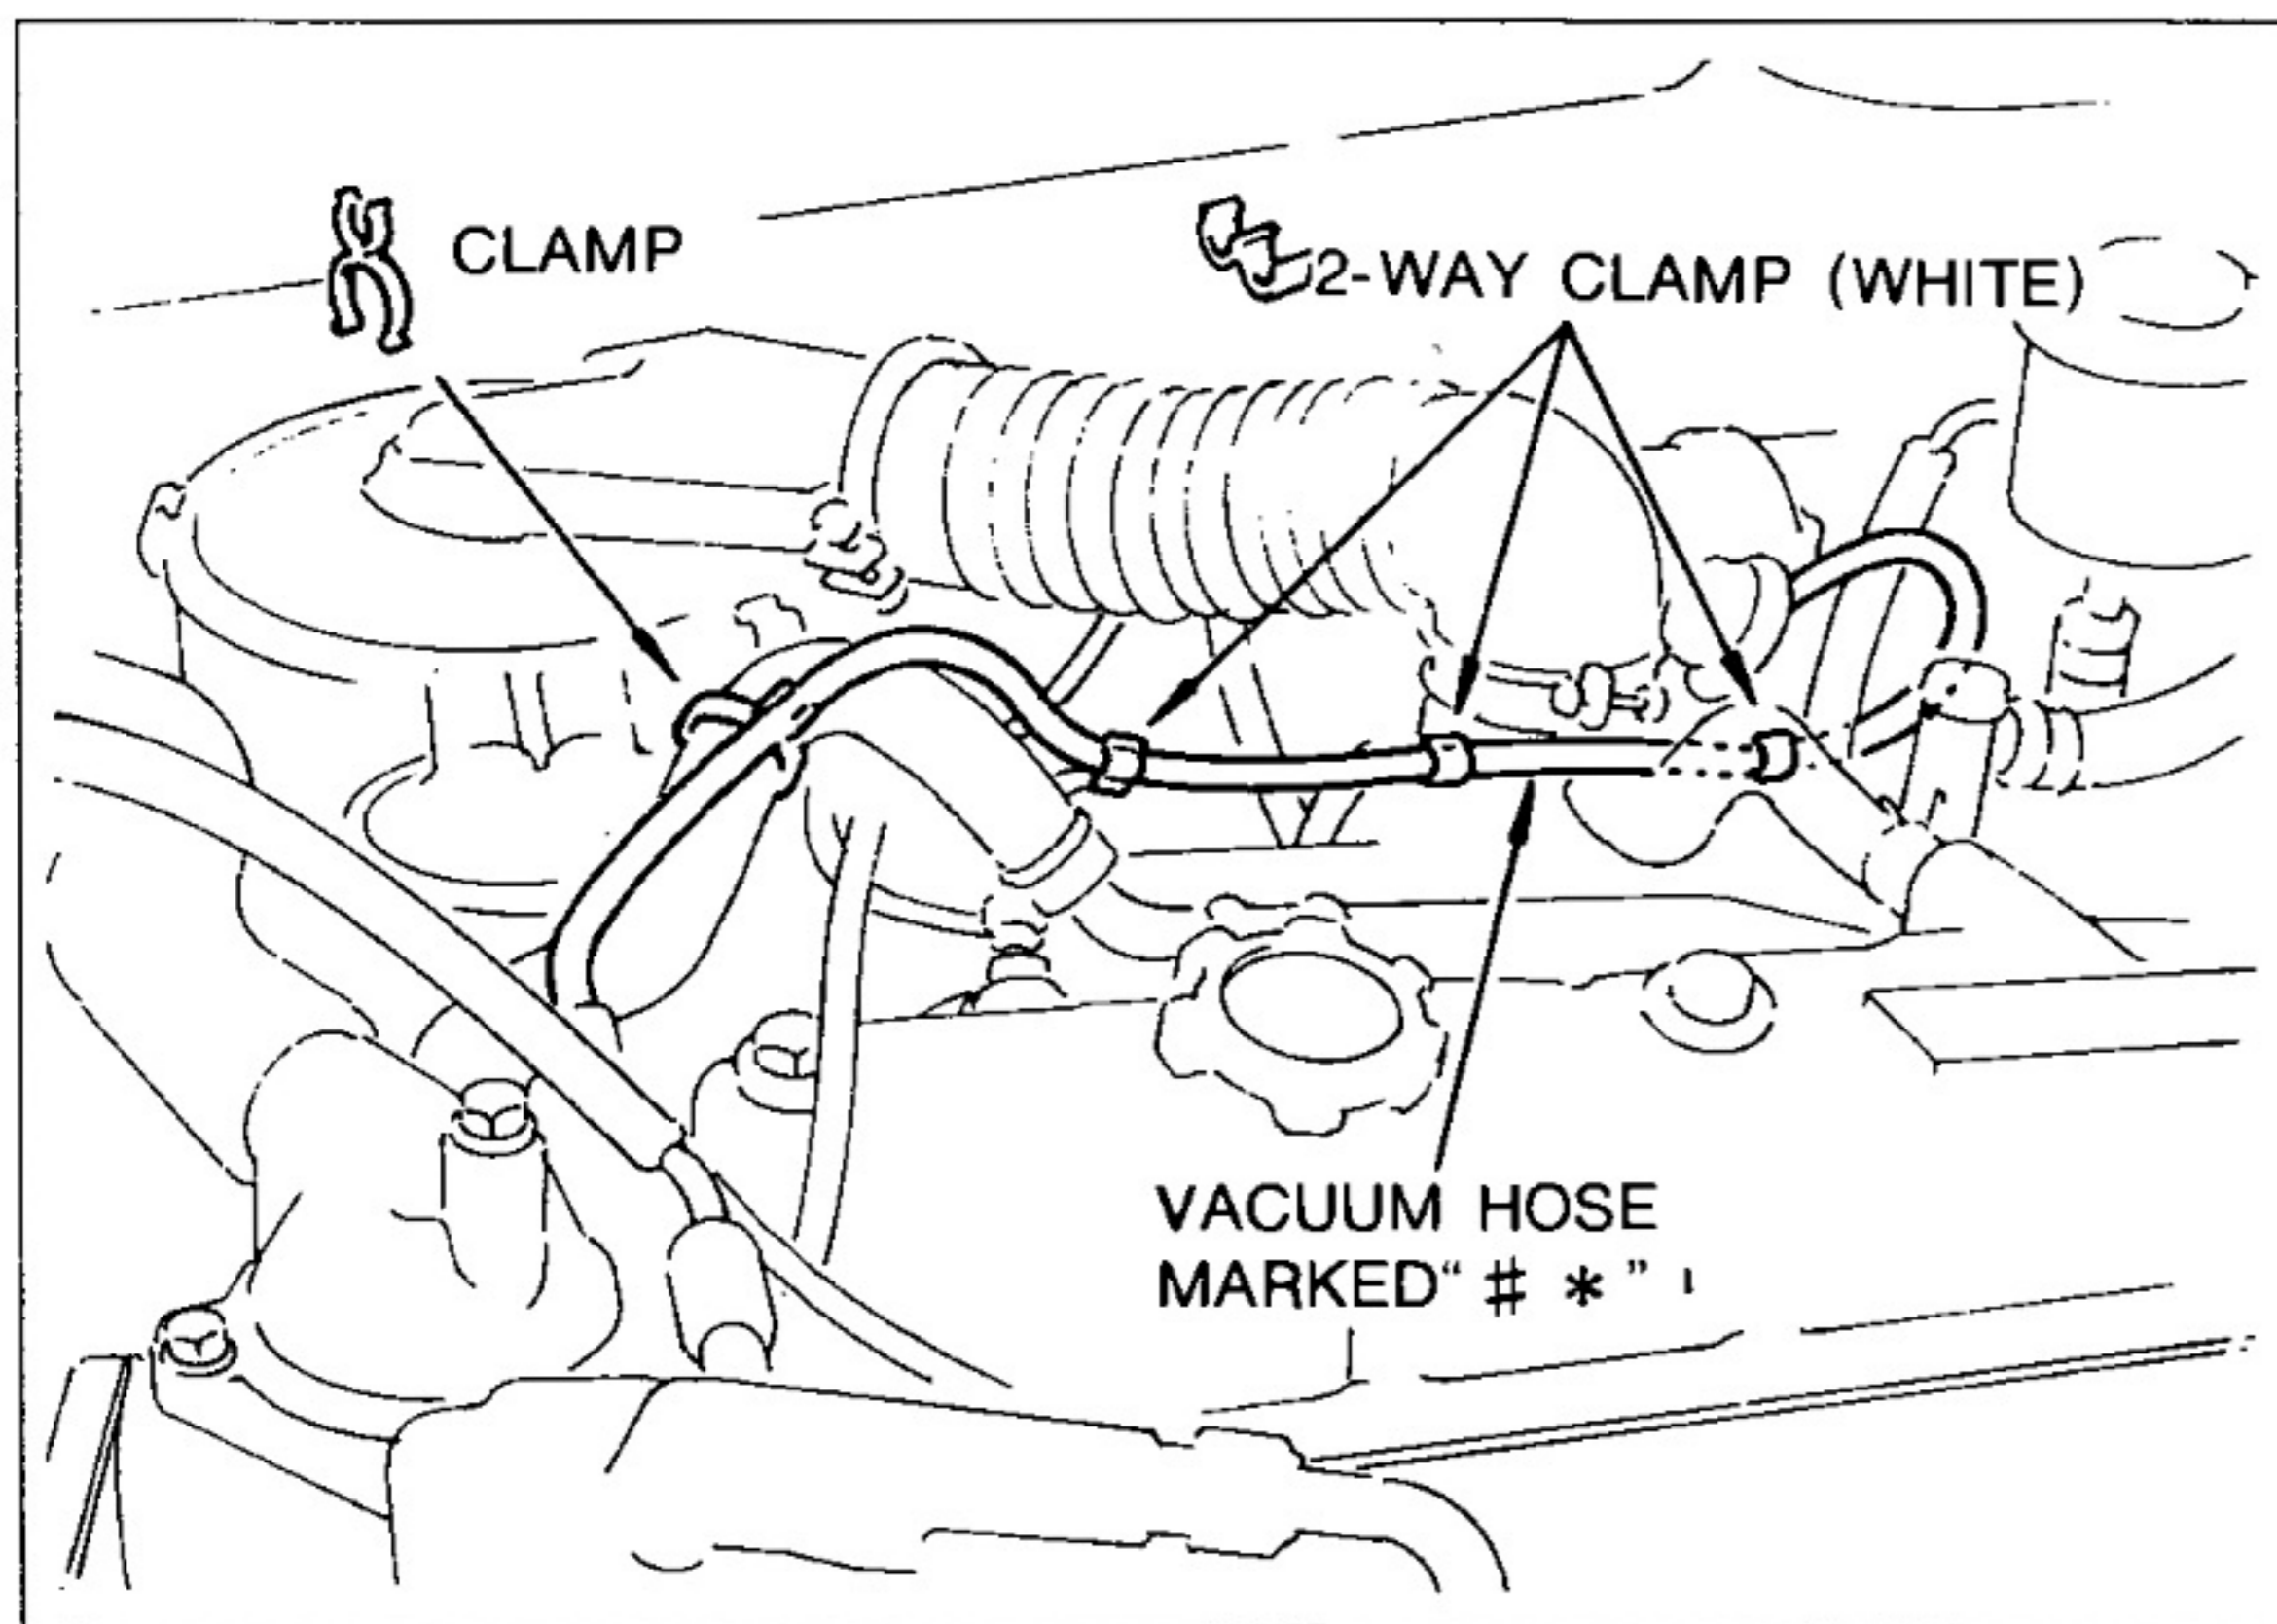
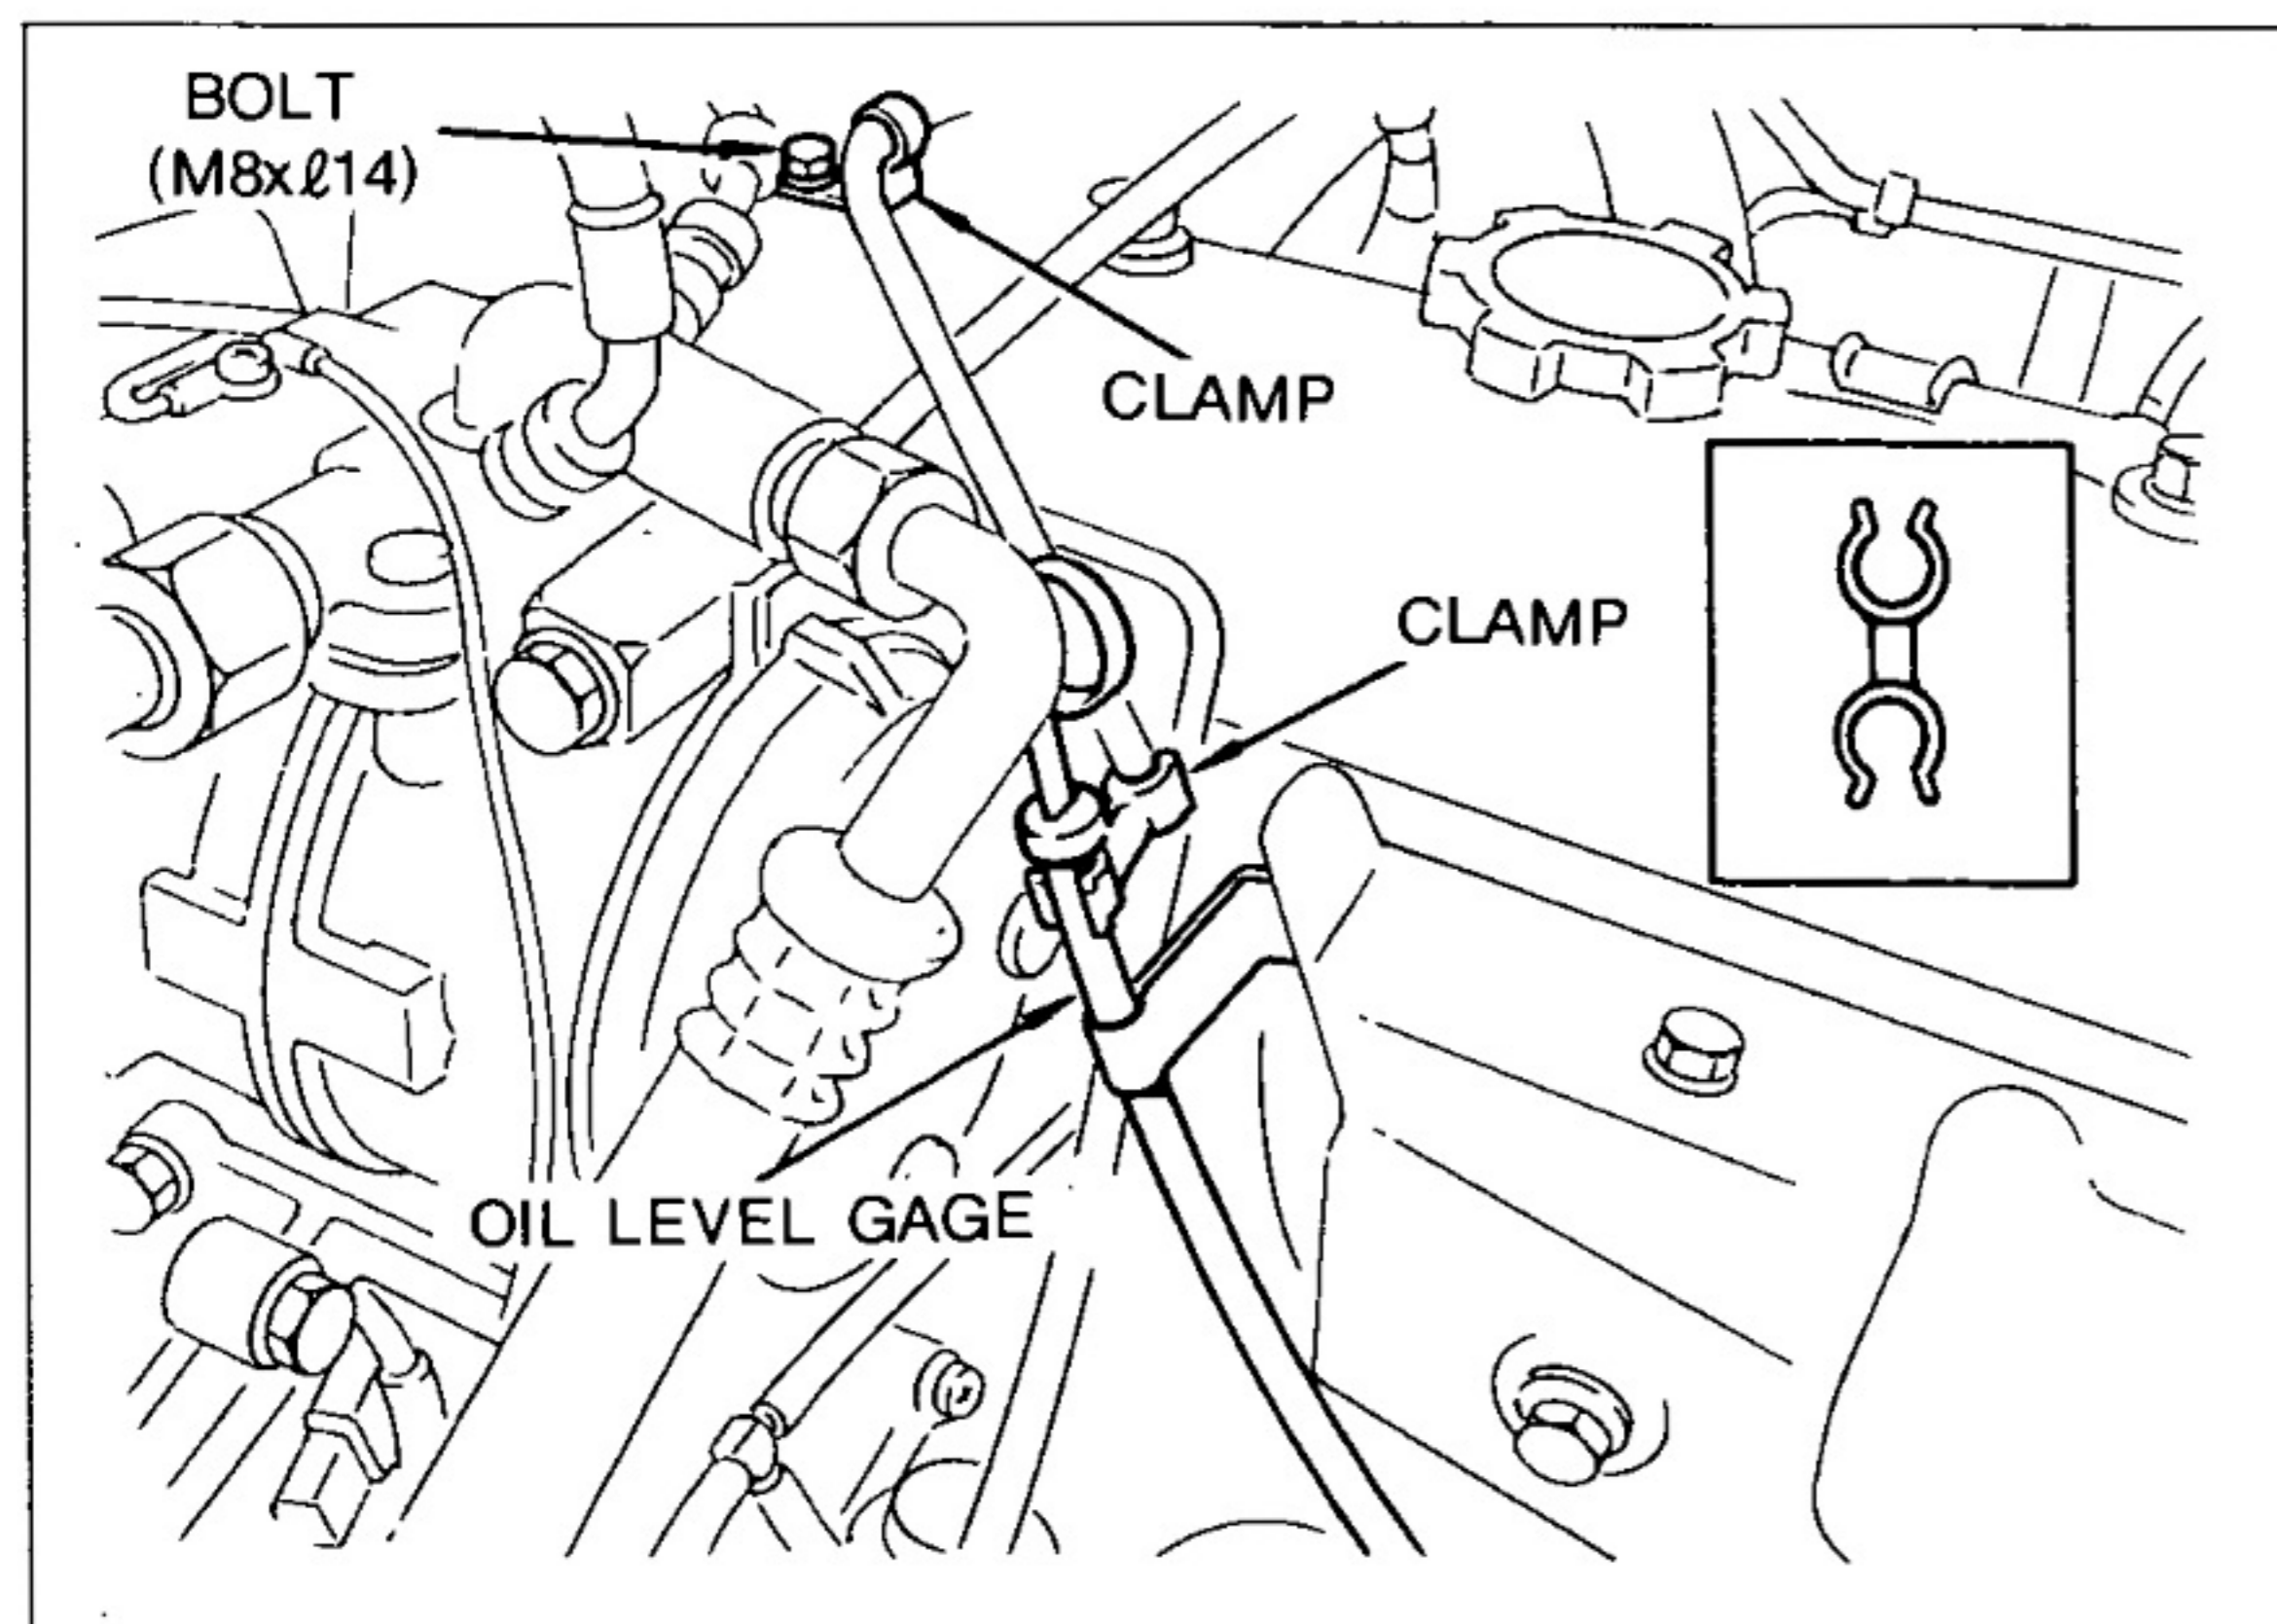
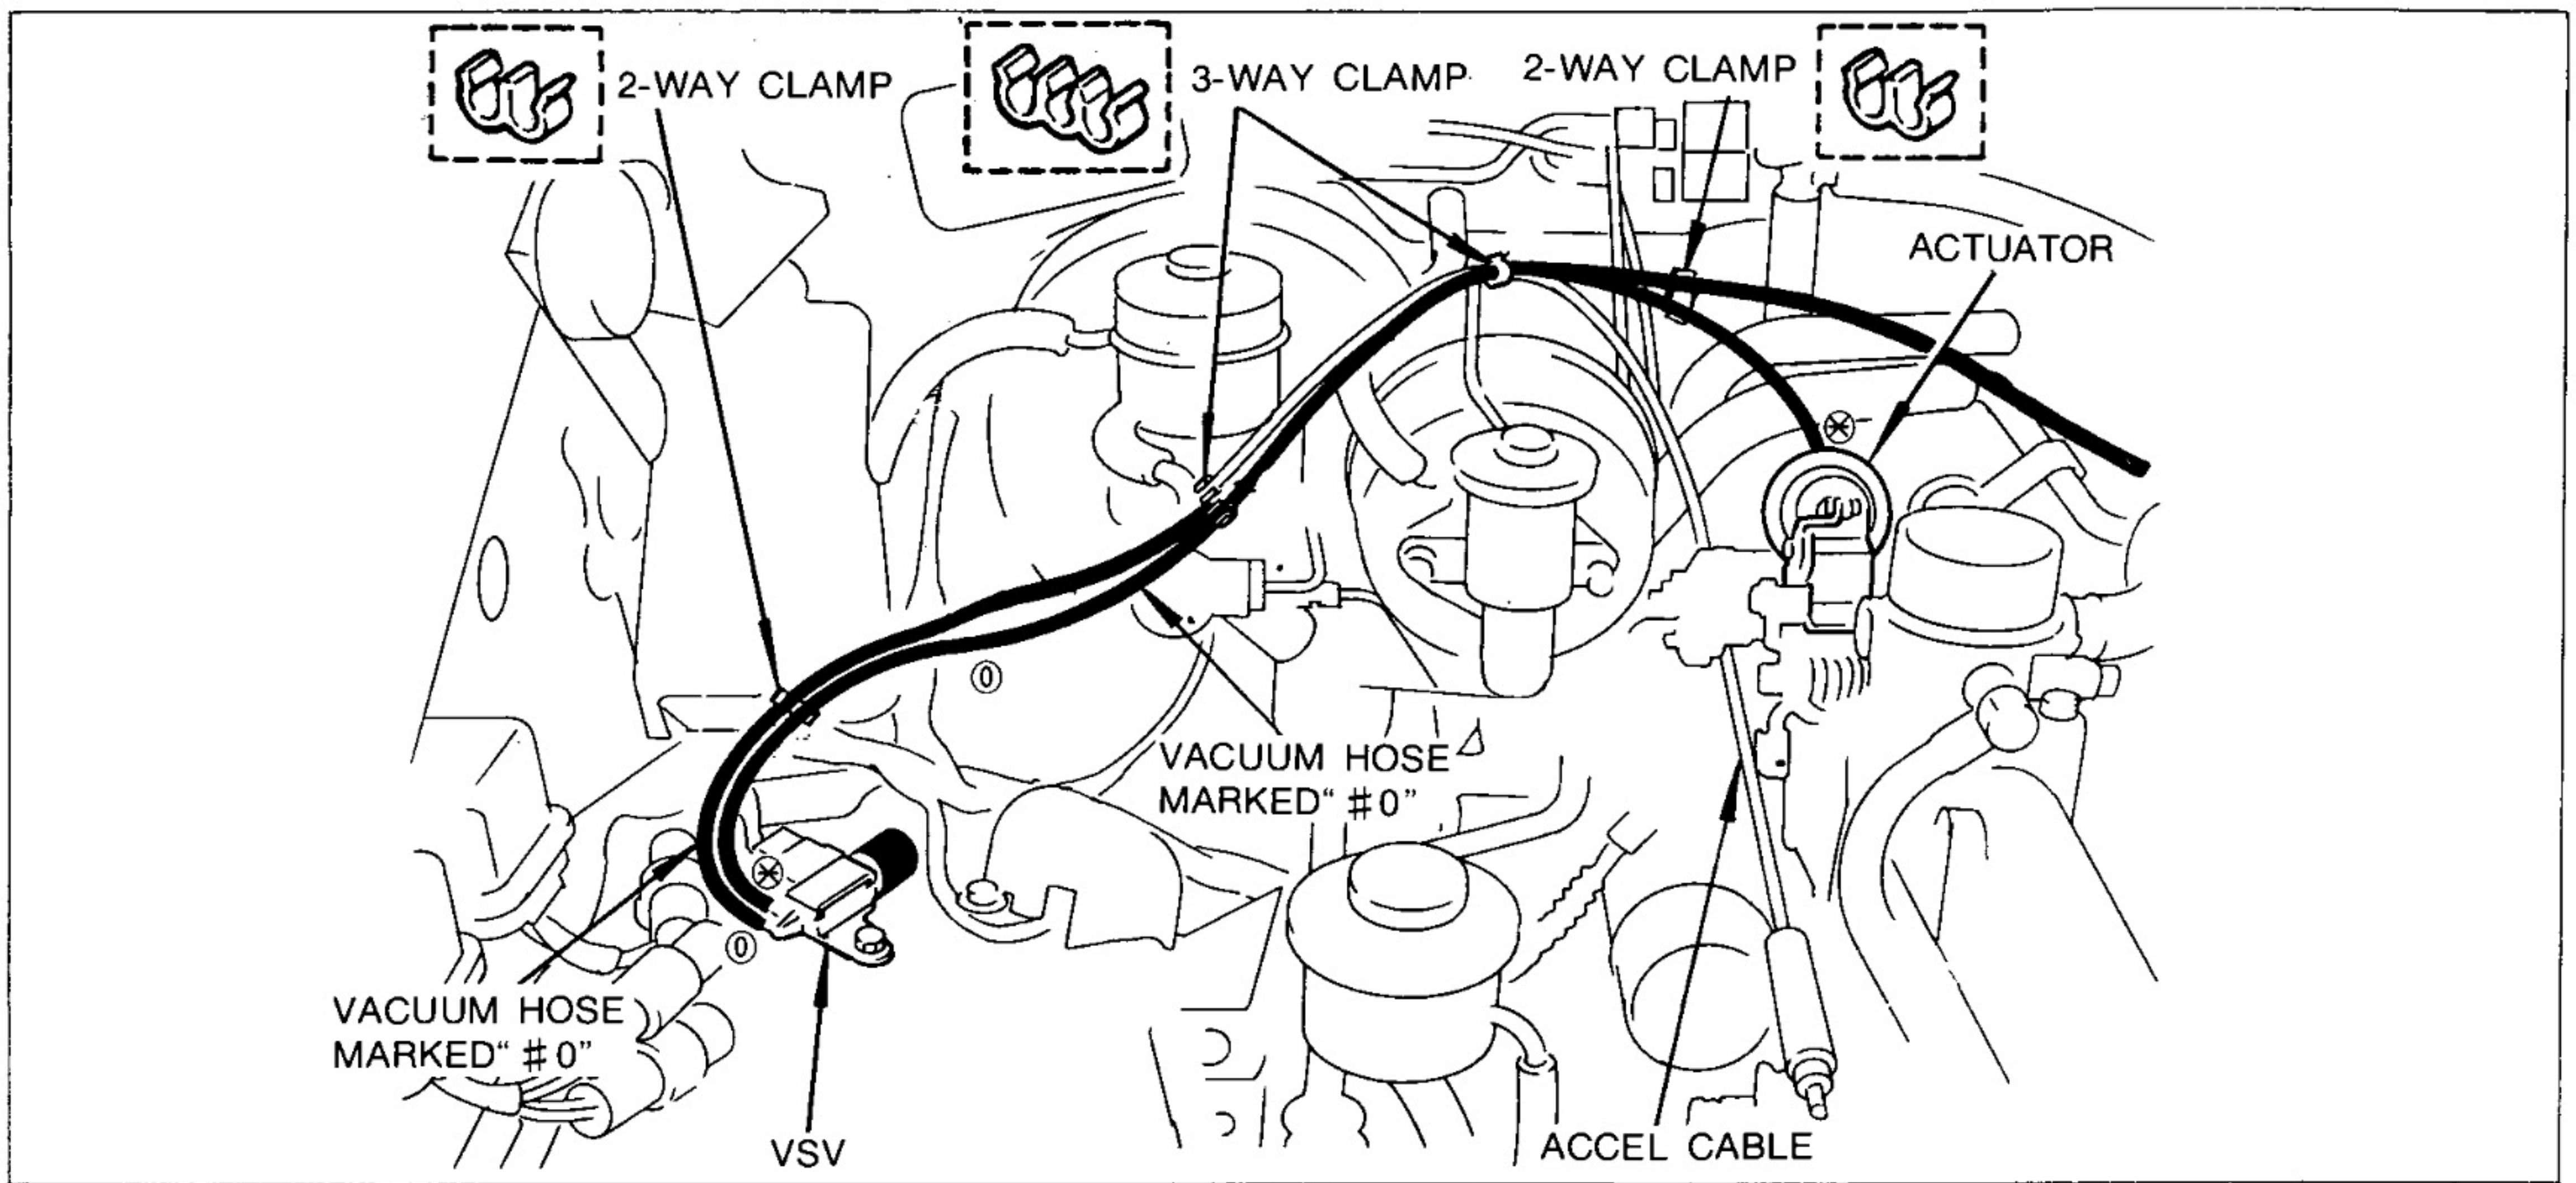

Fig.76
Fig.77
Fig.78
- (d) Fasten the vacuum hose using the eight clamps as shown in Fig. 76, Fig. 77 and Fig. 78.